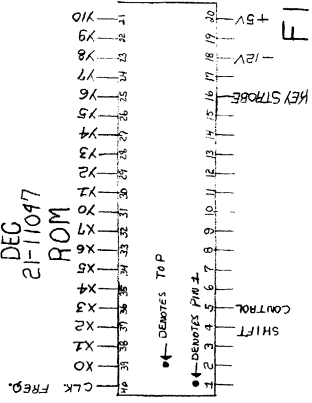

FIG. 1-1
IC's Y1, Y2, W1 to W3 are numbered with Y1 and W1 on the left side of the keyboard as you face it installed. Reference Fig 1-1.
| 9. Dead or Intermittent Key Functions | Check with a scope the X/Y line decoding for your particular problem key or keys per fig 1-1. Most likely solution will be; replace the key transistor or the ROM. One of these solutions will fix most dead or intermittent key problems. |
10. Check the oscillator voltage - The voltage can be checked at pin 9 of the I.C. plug. Reference Fig 1-1. No oscillation swap keyboard.
Check -12V ($\pm 1.5V$) at pin 18 of the ROM. Ref. Fig 1-1. No voltage or not within range; swap keyboard.